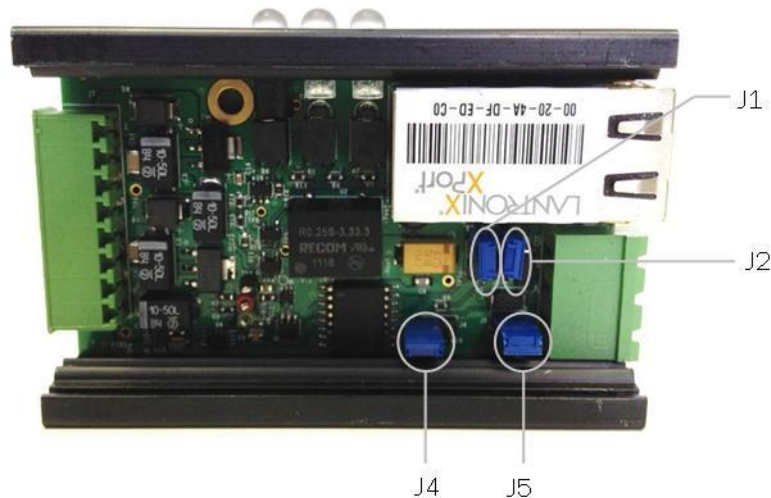
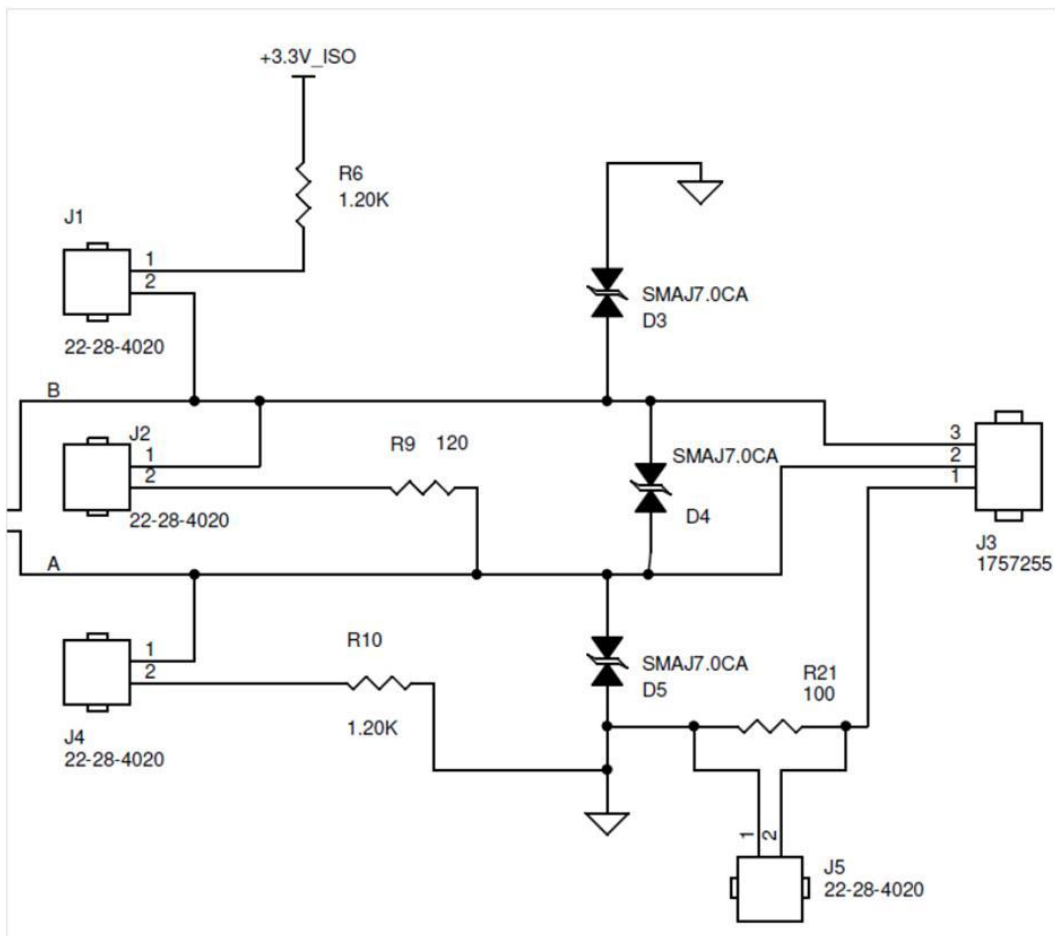

Figure A-11. Locations of termination jumpers
Figure A-12. Termination jumpers schematic
5. Reference Figure A-11 below and Figure A-12 (page 49). Reposition the included jumpers across the required jumper blocks. At a minimum, J2 must be jumpered. If required, the termination can be balanced between +V and GND by installing jumpers at J1 and J4 as well.